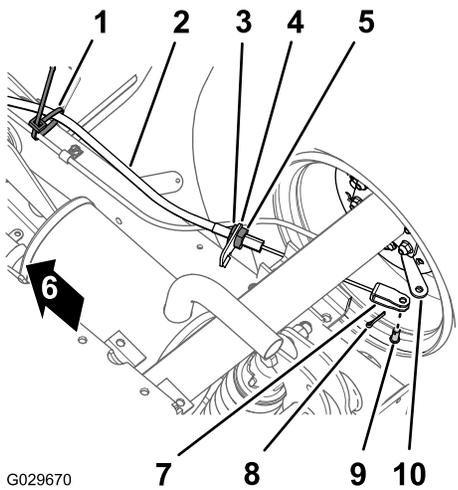

Figure 43
1. At the bottom of the machine, remove the cable tie that secures the parking-brake cable to the service brake line (Figure 43).
2. Mark a rotation stripe on the forward jam nut for the parking-brake cable (Figure 43).
- Loosen the rear-jam nut and remove the cable from the brake-cable bracket (Figure 43).
- Remove the cotter pin and the clevis pin that secure the clevis for the parking-brake cable to the brake-actuating lever and separate the cable from the lever (Figure 43).
1. Route the threaded adjuster of the parking-brake cable to the brake-cable bracket and the clevis to the brake-actuating lever (Figure 43).
3. Align the threaded adjuster of the parking -brake cable to the brake-cable bracket and tighten the rear-jam nut (Figure 43).